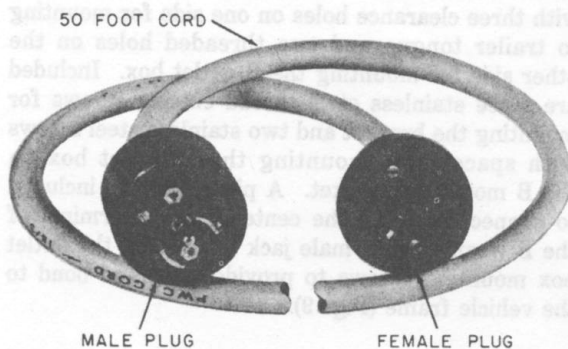

Fig. 5—B Weatherproof Cord
- Cord, Weatherproof, B (used with RV and boats, Fig. 5)
2.05 The B weatherproof cord (Fig. 5) is used to provide a telephone connection between the post-mounted jack at the service pad and the jack on the recreational vehicle in a trailer park or between the dock and boat in a marina. It consists of a 50-foot, 16-gauge 3-wire (ring, tip, and ground) yellow PVC insulated flexible cord, with PHONE stamped on the cord at 1-foot intervals
- One B weatherproof cord (for making connection between post and vehicle, Fig. 5)
- One B weatherproof cord (for connection between boat and dock, Fig. 5).